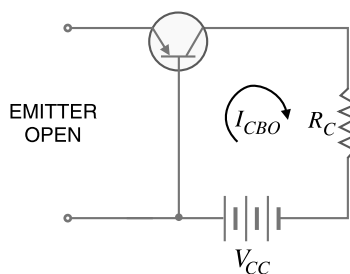
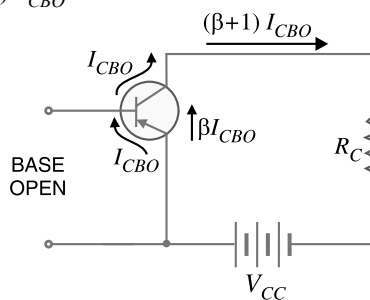

Fig. 6.24
Fig. 6.25
**Solution.** The leakage current  $I_{CBO}$  is the current that flows through the base-collector junction when emitter is open as shown in Fig. 6.24. When the transistor is in CE arrangement, the \*base current (i.e.  $I_{CBO}$ ) is multiplied by  $\beta$  in the collector as shown in Fig. 6.25.